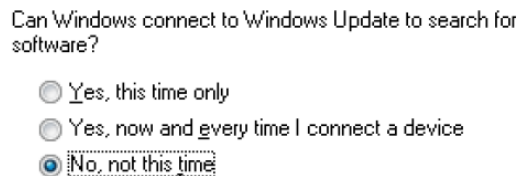

Figure 4. Windows Update Options
7. When Windows asks to search through the Windows Update, select *No, not this time* and click *Next* (see Figure 4).